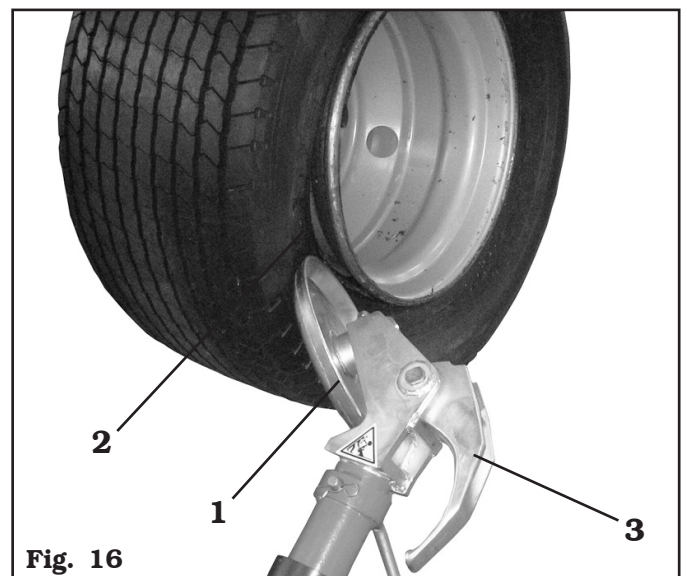
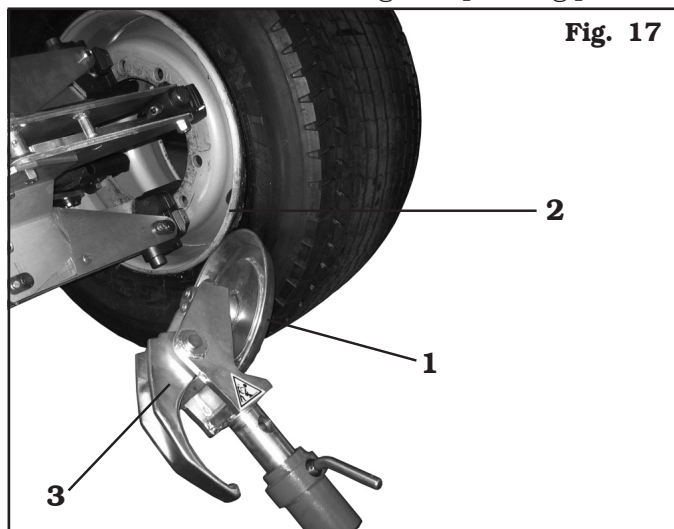

Fig. 16
Fig. 17
- Place as shown in Fig. 16 the bead breaker disc (Fig. 16 ref. 1) using the control lever (Fig. 9 ref. A); the outer profile of the rim (Fig. 16 ref. 2) must almost touch the bead breaker disc.
H. Carry out the tools holder head 180° rotation according to the descriptions of the relevant paragraph, so that the beading disc (**Fig. 17 ref. 1**) is placed against the rim edge (**Fig. 17 ref. 2**).
Throughout beading operations it is advisable to bend the hook tool (**Fig. 16** and **Fig. 17 ref. 3**) back to itself to avoid obstacles during the operating phases.